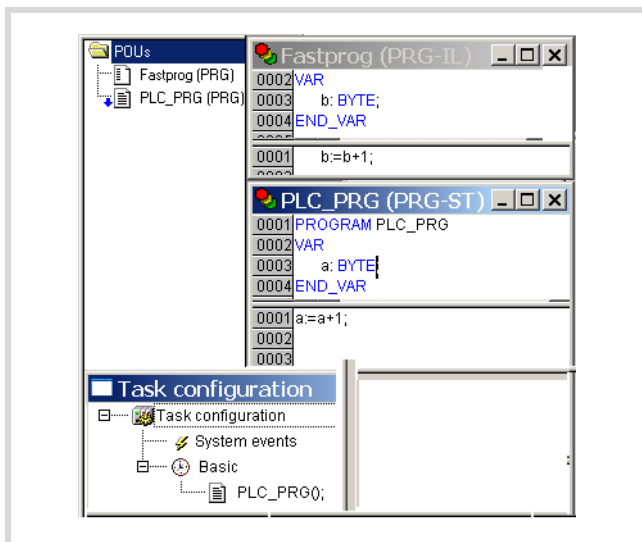

Figure 69: PLC and Task configuration
- Create the POU "PLC_PRG" and "Fastprog" as shown in Figure 69.